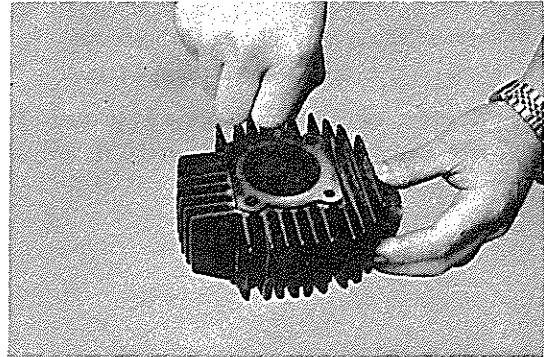

Fig. 3-5-4
- 1) Measuring piston ring wear .Put the ring into the cylinder so that the ring is parallel to the cylinder bottom edge, and then measure the end gap with a feeler gauge(Fig :3-5-4)